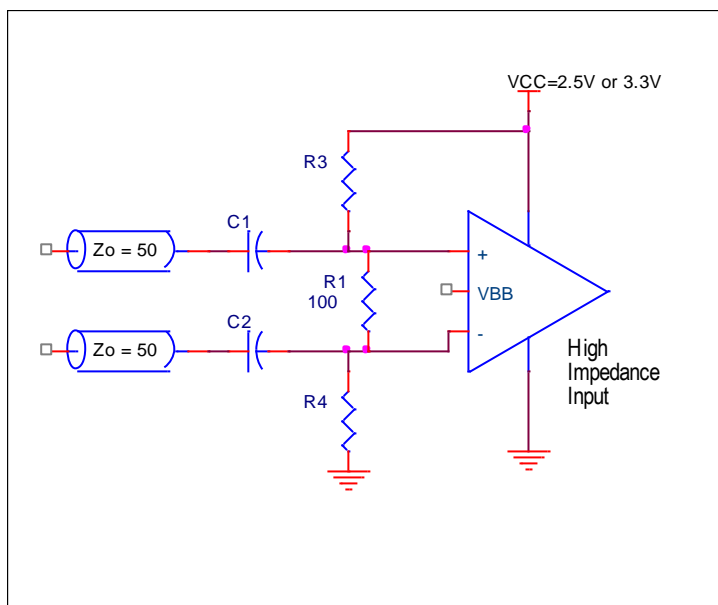

Figure 6. Example 2 – 853S01 Input Interface
- Figure 6. Example 2 – 853S01 Input Interface5